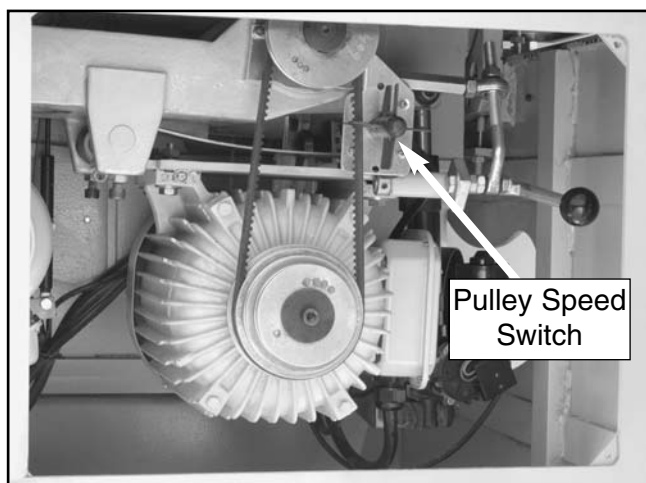

Figure 63. Pulley speed switch.
5. Turn the pulley speed switch (**Figure 63**) so that the opening in the fins line up with the belt position. This switch registers the speed with the control panel.